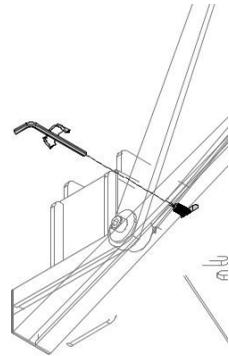

fig. 7
- 2 Adjust the safety screws to the correct positions (see fig 7). In order to do that, loosen the safety screws and position them 3mm from the floating point of the scissor joint system.